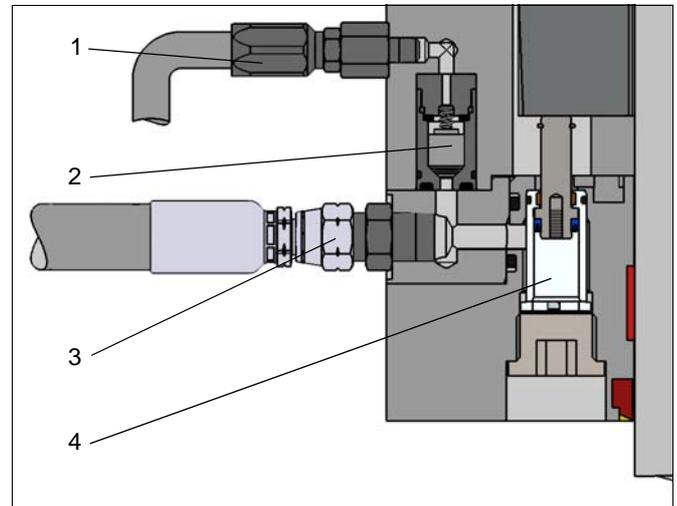

Fig. 4: Auto-bleeder integrated in safety catcher type K/TA
For safety catchers that have sufficient housing wall thickness, are installed in a fixed position (not moving) and are mounted vertically, the auto-bleeder can be integrated as shown in principle drawing *Fig. 4*.
A suitable pipe line provided by the customer has to be led from port E (1) *Fig. 4* of the auto-bleeder to the tank to drain the exhausted air-oil mixture. Additional information can be found in the manual delivered with the safety catcher.
⚠ In any case, it is mandatory to connect a pipe or hose to port E (1) *Fig. 4* in order to lead the air-oil mixture exhausted during operation to the tank.